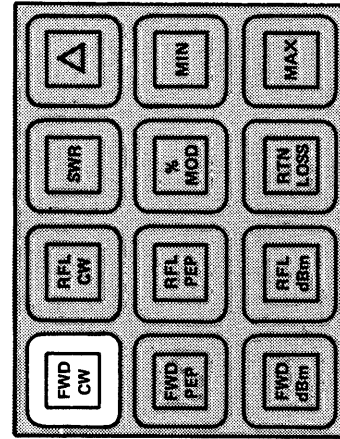

Figure 3-1. Forward Power (CW).
a. **Reading Forward Power.** (Figure 3-1.) For this measurement only a forward element is required. Install the meter and element according to the preceding paragraphs and move the power switch to **LINE** or **BAT** depending on the power source desired. When powered up, the 4391 always goes into the forward CW power mode. If the unit is already operating, the forward CW power mode is selected by pressing the **FWD CW** key momentarily. If the applied power exceeds 120% of the range, two right facing arrow heads (i.e., "greater-than" symbols) will be displayed. The operation of this error message does not depend on the correct setting of the range switches by the operator, nor will the meter or its elements be damaged if the switches are incorrectly set.